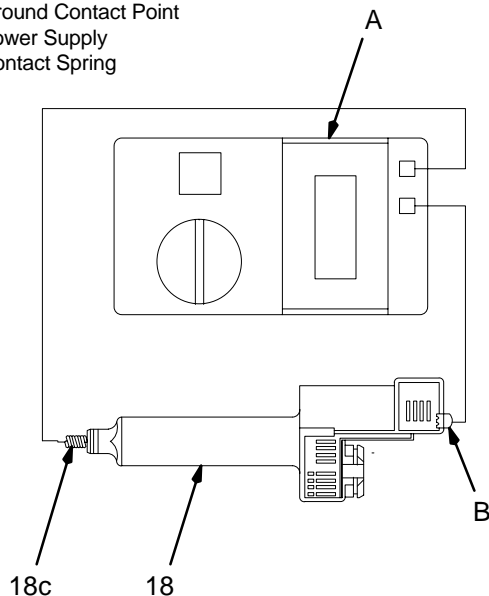

Fig. 14
2. Remove the power supply (18) from the gun handle as instructed on page 40.
3. Remove the turbine alternator (37) from the power supply as instructed on page 41.
4. Measure the resistance from the power supply's ground contact point (B) to the contact spring (18c) on the other end of the power supply. See Fig. 14.
KEY-Fig. 14